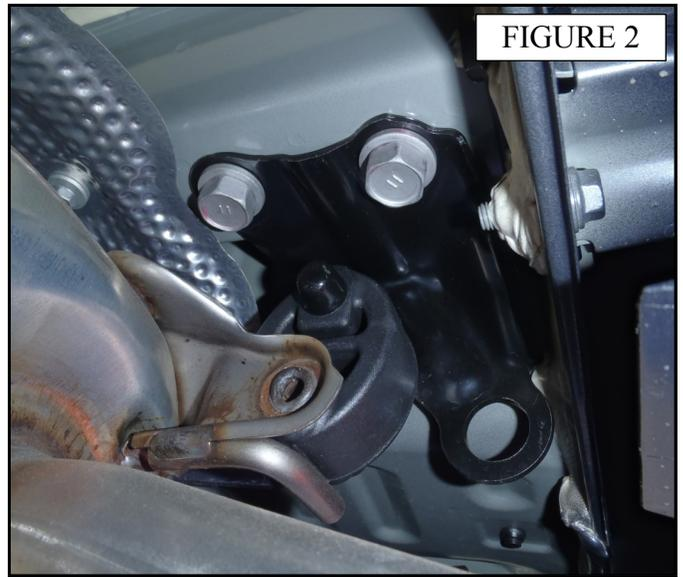

FIGURE 2
5. Locate the rear most exhaust muffler hanger. Remove the two original 17mm hex cap screws. Do not disassemble the exhaust hanger bracket from the muffler assembly. Figure 2